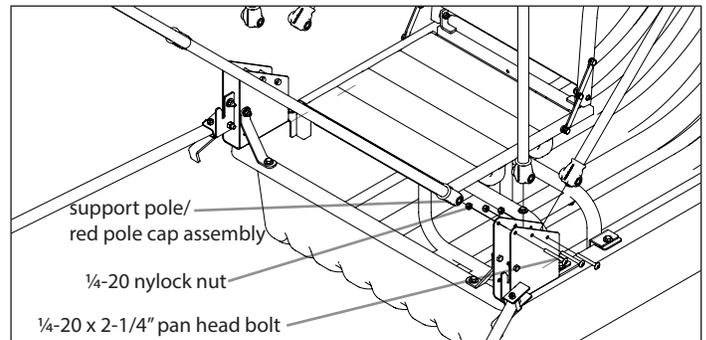

FIGURE 7
10. Attach the (3) support pole/pole cap assemblies (15519/68060) to the hinge assemblies (11652/11653) using (6) ¼-20 x 2-1/4" pan head bolts, and (6) ¼" washers. **SEE FIGURE 7**